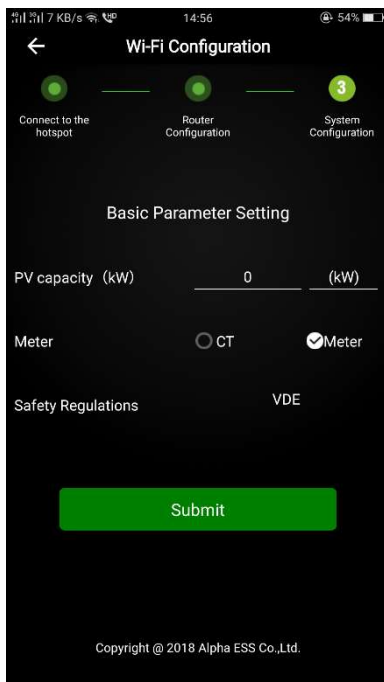

Figure 4.10 Basic Parameter Setting
Step 5: set the basic parameters, and you can see the details of equipment, click "submit" button, as shown in Figure 4.10 and Figure 4.11.